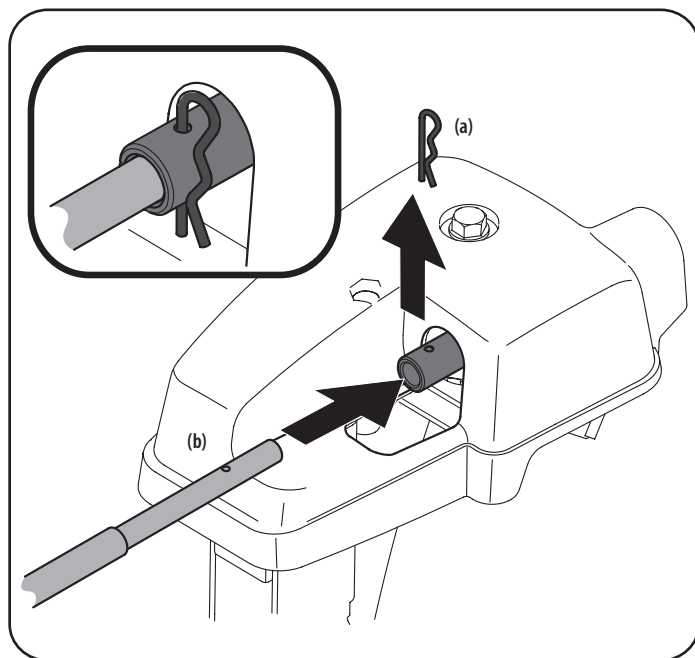

Figure 7
9. Remove hairpin clip (a) from rear of chute control assembly. See Figure 7.
10. Insert flex shaft (b) removed during handle assembly from lower handle into rear of chute directional control head. See Figure 7. Secure flex shaft to chute control head with hairpin clip (a) removed in Step 4.